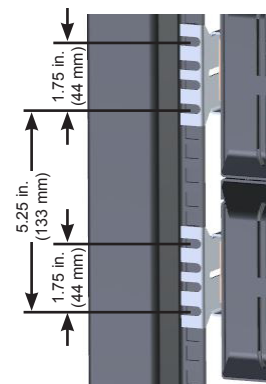

FIGURE 5 CAGE NUT INSTALLATION
3. Clip a second cage nut 1.75 in. above each cage nut installed in step 1 (Figure 5). The nut should be on the inside of the rack.
4. If more than one module is being installed for the T1000 system, install the next set of cage nuts from the other module's 4-Post Slide Kit three (3) Rack Units (5 1/4") above the first set of cage nuts (Figure 5). Repeat steps 2-3.